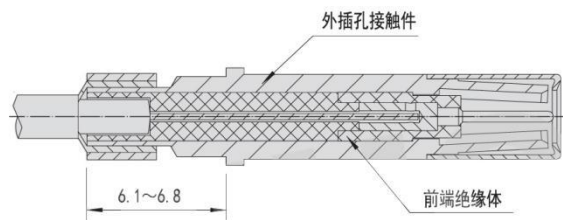

Figure 2.8
② As shown in Figure 2.8, proceed as follows: